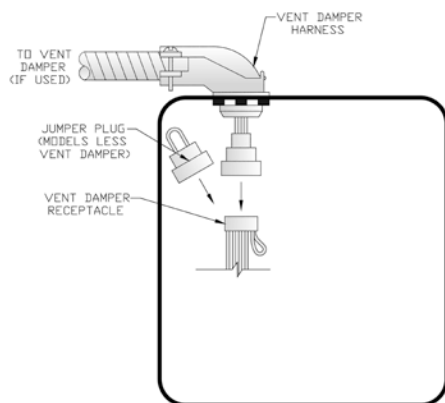

Figure 31: Vent Damper Connection Detail
- a. Remove one (1) 7/8" knockout from junction box. Carefully remove transformer - avoid undue strain on wires.
- c. Remove factory installed jumper plug (if so equipped) from Vent Damper Receptacle. Plug Vent Damper Harness into Vent Damper Receptacle. See Figure 31.
- c. Remove factory installed jumper plug from Vent Damper Receptacle. Plug Vent Damper Harness into Vent Damper Receptacle. See Figure 31.